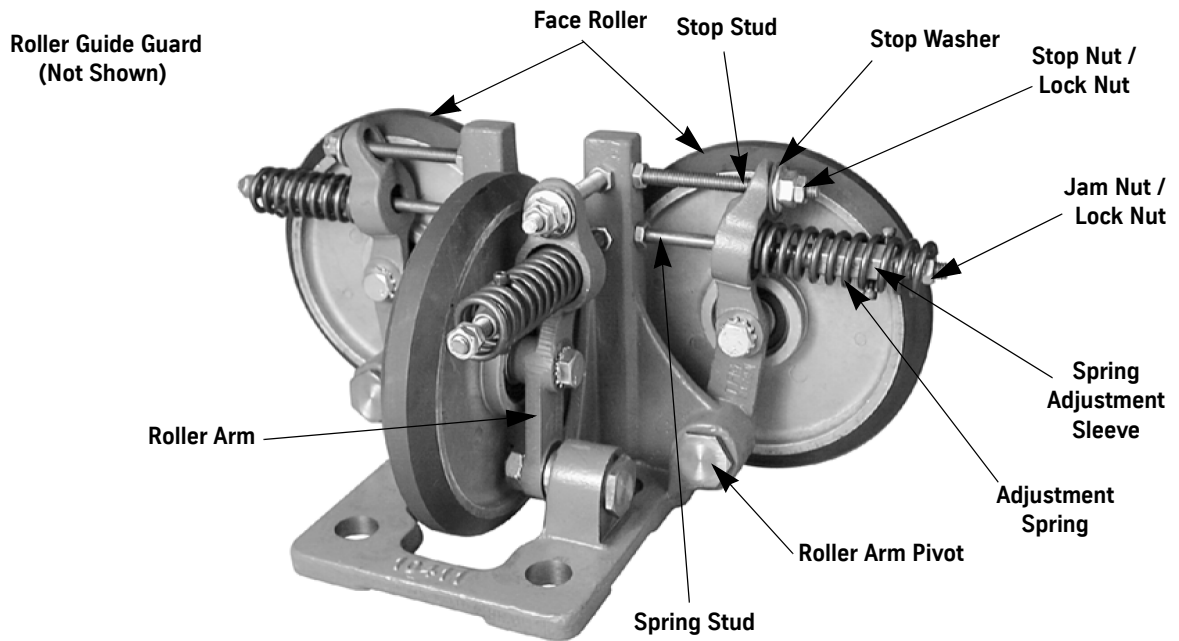

Figure 2 - 63190 or 63801 Roller Guide Assembly
5. Set the spring adjustment sleeves. See Table 1 and Figure 2.
7. Shift the base as required to center the slot on the rail. See Figure 2.